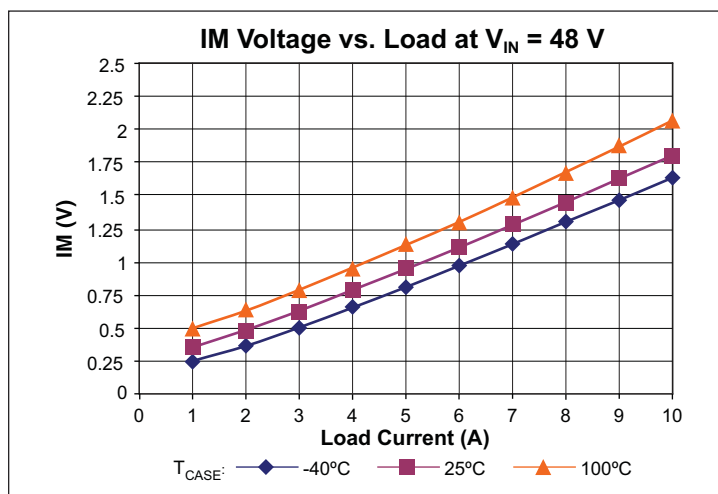

Figure 8 — IM voltage vs. load
Current Monitor (IM) pin provides a voltage proportional to the output current of the VTM module. The nominal voltage will vary between 0.38 V and 2.03 V over the output current range of the module (See Figures 8–10). The accuracy of the IM pin will be within 25% under all line and temperature conditions between 50% and 100% load.